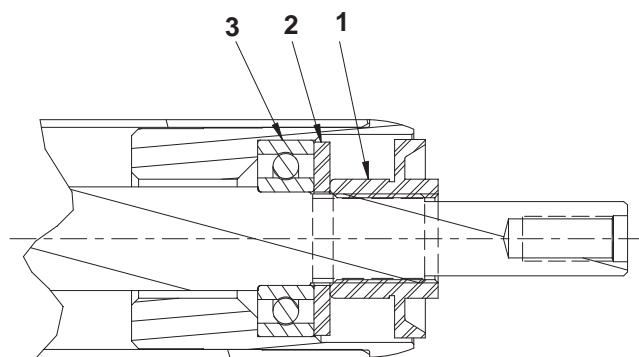

Figure 1
3. Install a new bearing, a black assembly washer and old nut onto each end of the roller (Fig. 1).
4. Tighten the nuts until the bearings are seated on each end of the roller (Fig. 1).
5. Remove the nut and black assembly washer from each end of roller (Fig. 1).